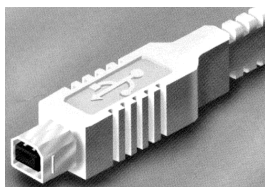

Figure 7-1. The USB cable device connector.
2. Connect the “device” connector of the USB cable to the USB receptacle in the back of the Lambda 10-3. Of the two connectors on the supplied USB cable, the one that is square in shape is the one that connects the USB device. The device connector is shown in Figure 7-1.